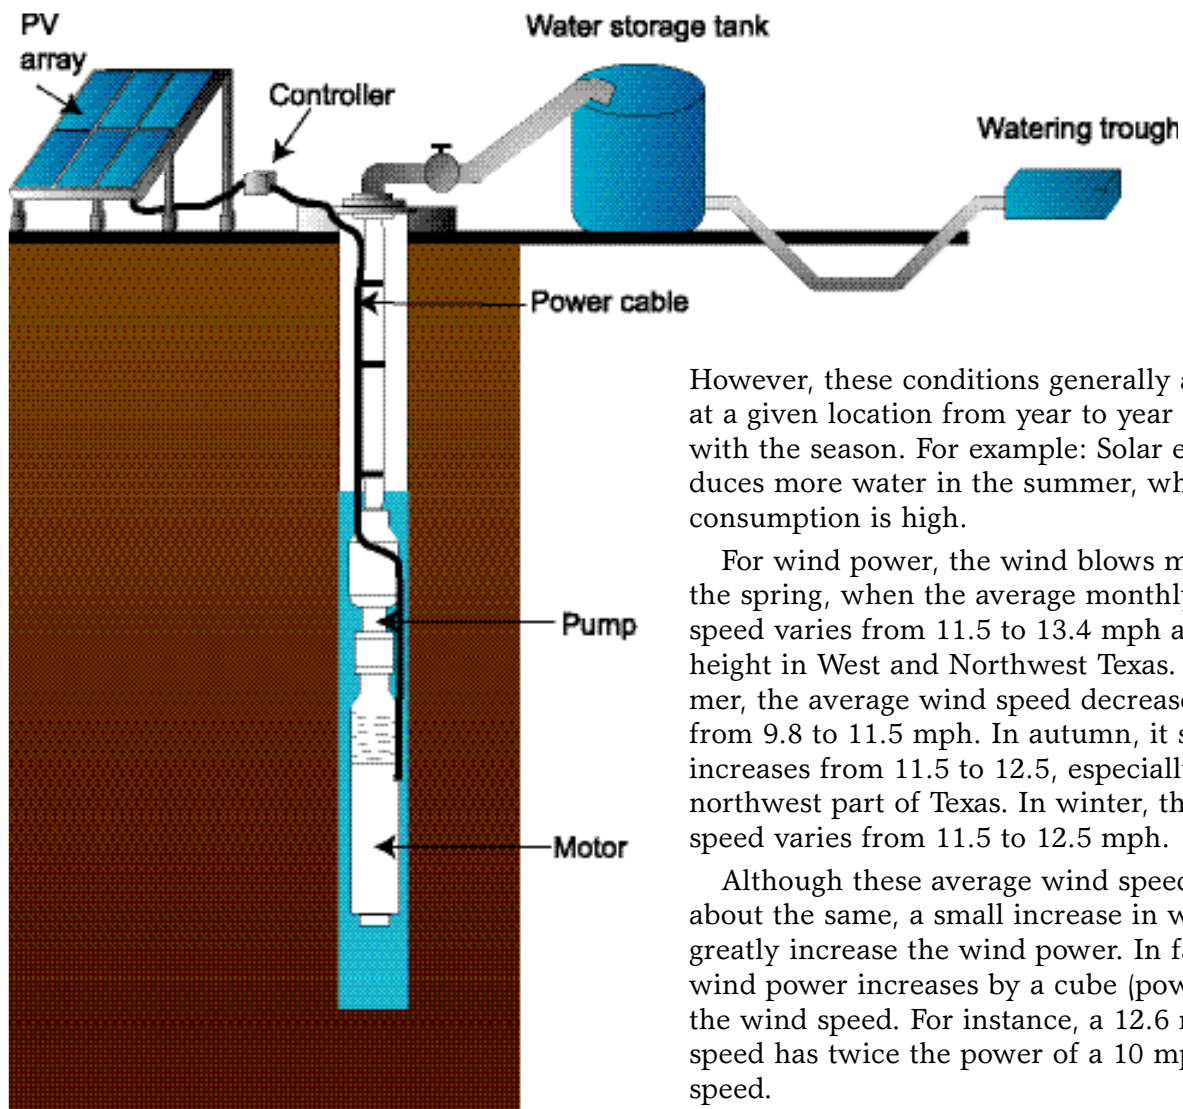

Figure 2. A solar-powered water pump.
Sometimes an array of solar modules is needed to produce enough energy for the pump. The modules are mounted on a frame in an assembly called a photovoltaic (PV) array. The PV array is connected to a controller and then with an electrical power cable to the motor/pump subsystem in a well (Fig. 2).